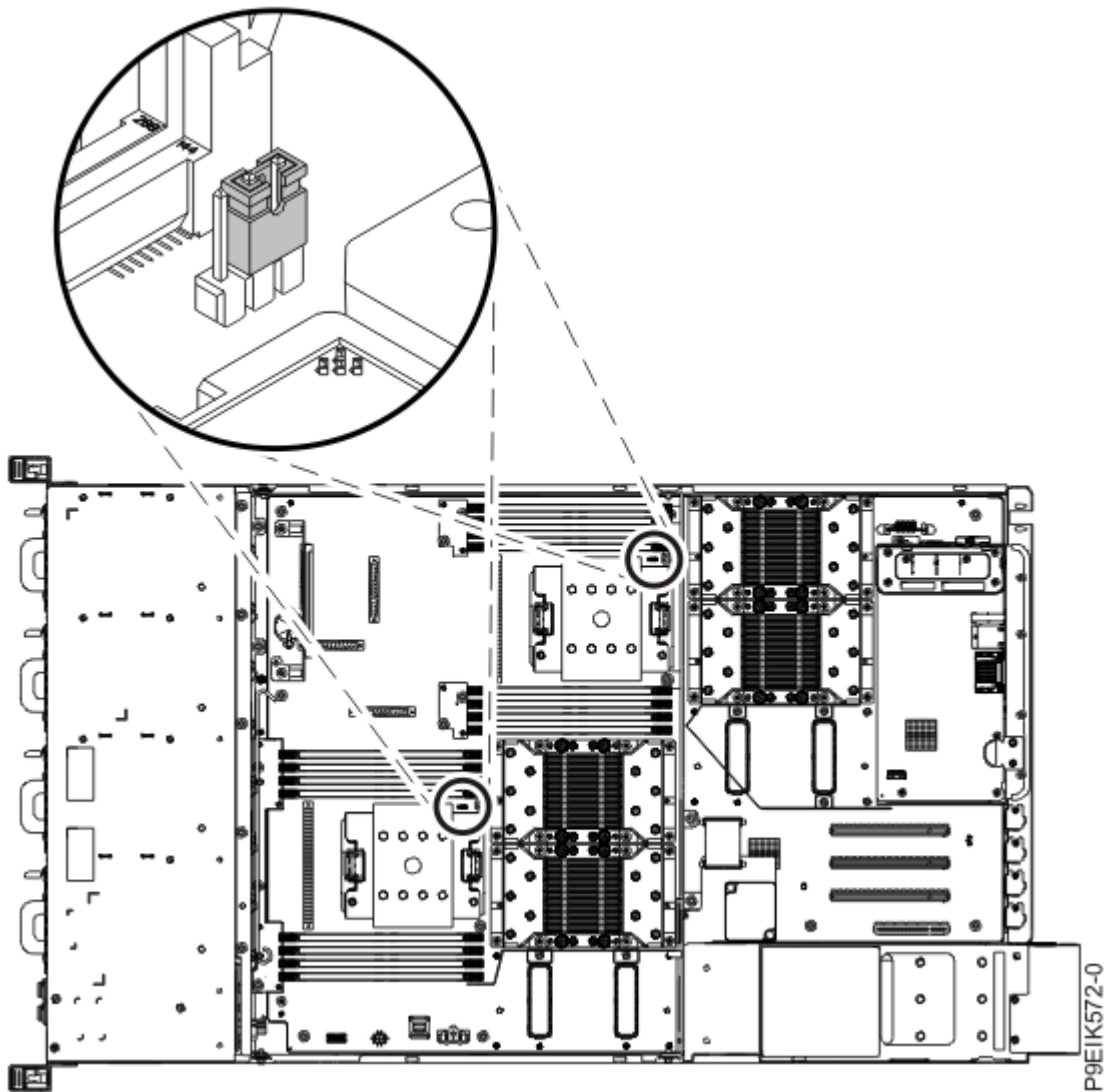

Figure 42. System processor jumper positions
12. Remove the system processor jumpers from the system backplane as shown in Figure 42 on page 56.